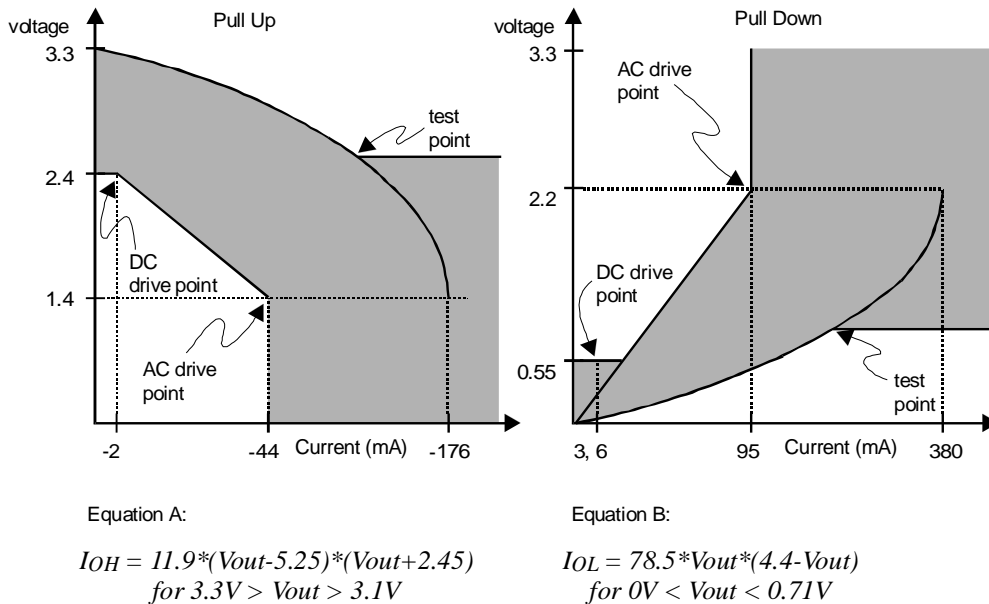

Figure 1. AC Characteristics
5. Refer to V/I curves in Figure 1. Specification does not apply to PCICLK and RST# signals. Switching CurrentHighspecificationdoesnotapplytoSERR#,PME#,CLKRUN#,andINTA#whichareopendrainoutputs.